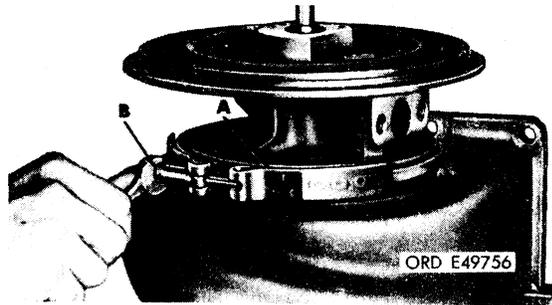

FIGURE 47. SECURING BEARING HOUSING ON TURBINE HOUSING - TURBOCHARGERS 10912638 AND 53591-C-139552.
- (2) Refer to figure 47. Position clamp (A) on bearing and turbine housing flanges. Using a suitable grease, lubricate back face and threads of clamp nut (B). Install nut and tighten to a torque of 10 pound-feet. Lubricate and install bearing (A, fig. 35) at compressor end of bearing housing.